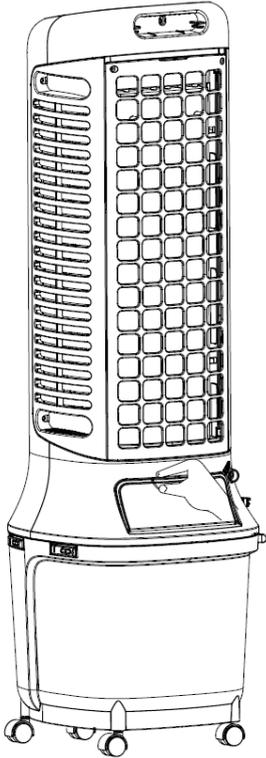
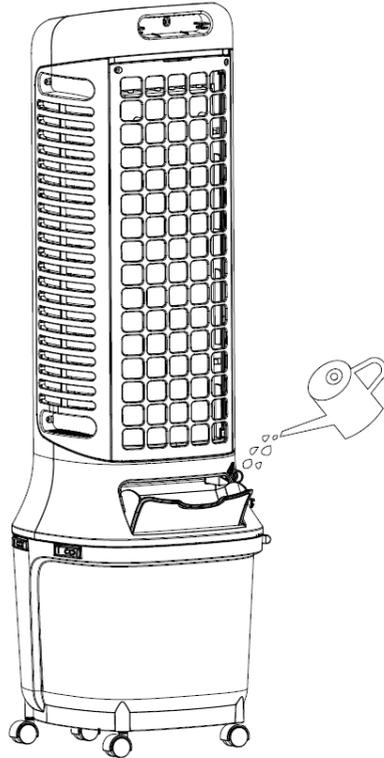

Figure 1
Figure 2
Refilling method: ①Open the water inlet gate and slowly pour water into the water tank(Figure 1 and Figure 2). After adding the water, close the water gate again.